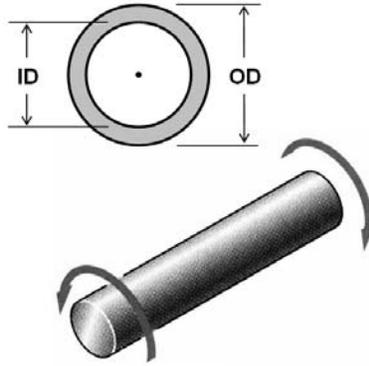

Figure 1: Femur under pure torsional loading T .
- (a) Draw a representative in-plane element from the outermost surface of the femur diaphysis. The femur is idealized as an annular cylinder of uniform diameter subjected to a pure torque T (Figure 1). Indicate all the normal and shear stresses σ_{ij} acting on that material volume element, expressed only as a function of T .